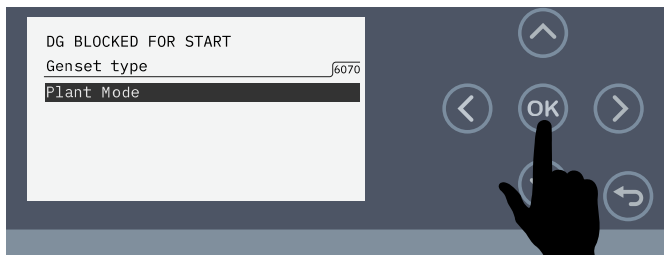

Figure 82. Select Plant Mode
5. Make sure **Plant Mode** is highlighted (Figure 82), then press the OK button.